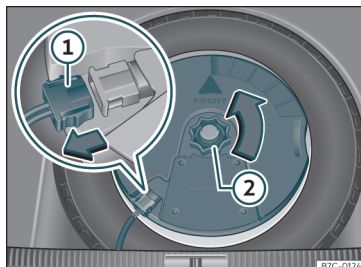

Fig. 214 In the luggage compartment: remove the subwoofer.
- Disconnect the *subwoofer*»» **Fig. 214 ①** speaker cable.
- Turn the securing wheel in an anti-clockwise direction»» **Fig. 214 ②**.